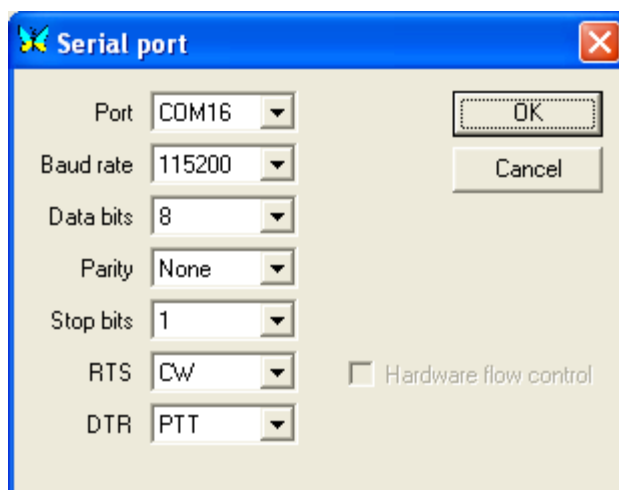

Figure 145: MixW Serial Port Details
4. On the **PTT & CAT Interface**, click on the **Details** button to open the following form (Figure 145):